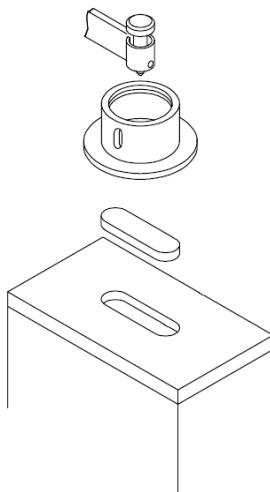

Figure 15 Using the trough plate and pressure clamp for analyzing powders
4. Place the powder spacer (L1362431) on top of the powder, and then place the pressure pad on the powder spacer (Figure 15).